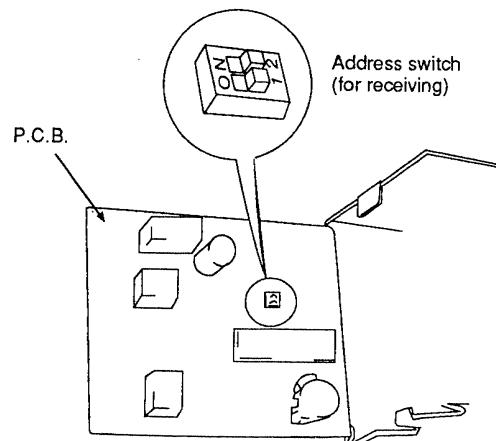

Fig. 20
- Pull out the P.C.B. to access the address switch. (Fig. 20)